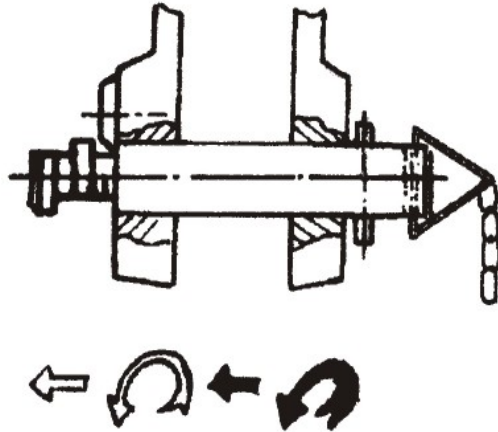

Fig2. Turn and push the fixed axis twice and let it enter the second tunnel
2. Anchor: Fixed axis is to be used to anchor the rope round the hoister. Connect the wire rope or the hanger with the fixed rope and tie the other end to the load, masts, etc. There is a relaxation proofing tunnel on the fixed axis. When the fixed axis is inserted the hoister case , is must be turned twice to the second tunnel till it is clamped tightly (Fig2). Then the operation can be done. Notice please. The end of the wire rope must be on the upper of the fixed axis so as to make the rope not block and move freely.